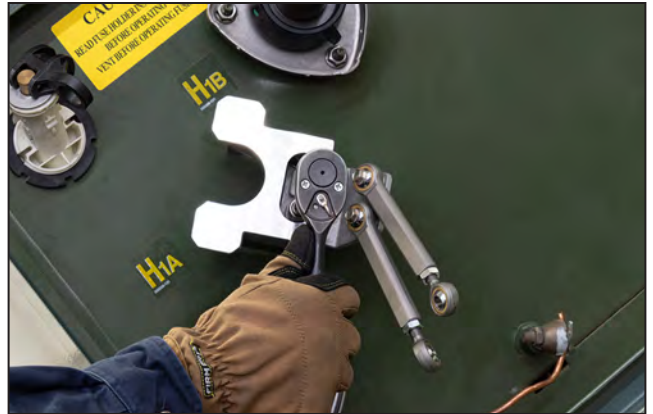
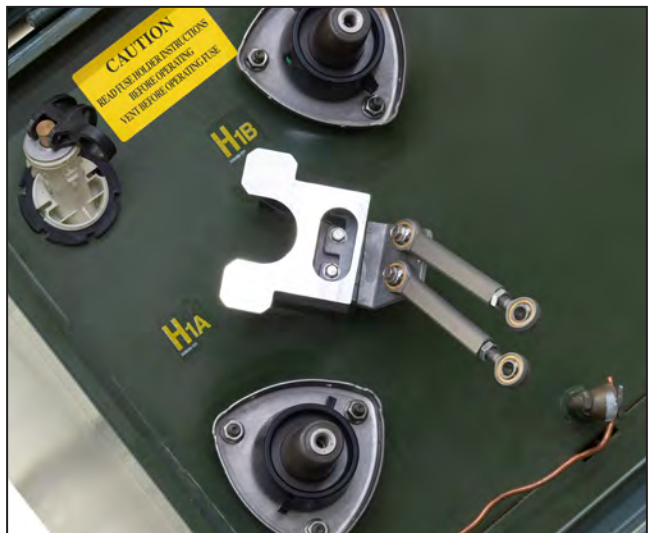

Figure 15. Tighten the bolts.
Figure 16. A completed parking stand link bracket installation.
STEP 4. Tighten the two bolts with a wrench equipped with a $\frac{3}{8}$ -inch socket to a torque of 6 ft-lbs. See Figure 15. The completed installation is shown in Figure 16.